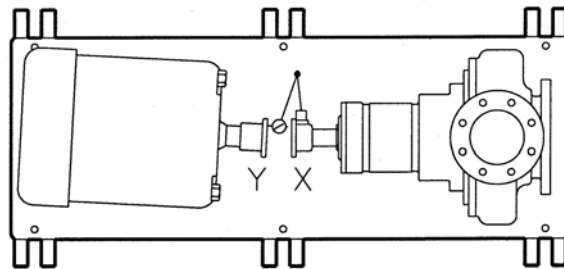

Figure 7:
1. Mount two dial indicators on one of the coupling halves (X) so they contact the other coupling half (Y) (Fig. 7).